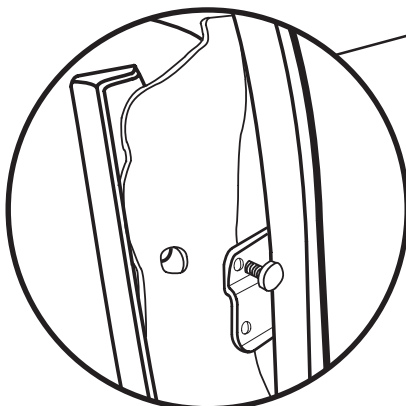

Fig. 2A
4. Pull upper corner of trunk sill plate and fabric liner from trunk wall and insert weld stud through upper hole in the support bracket on each side. (Fig. 2A)